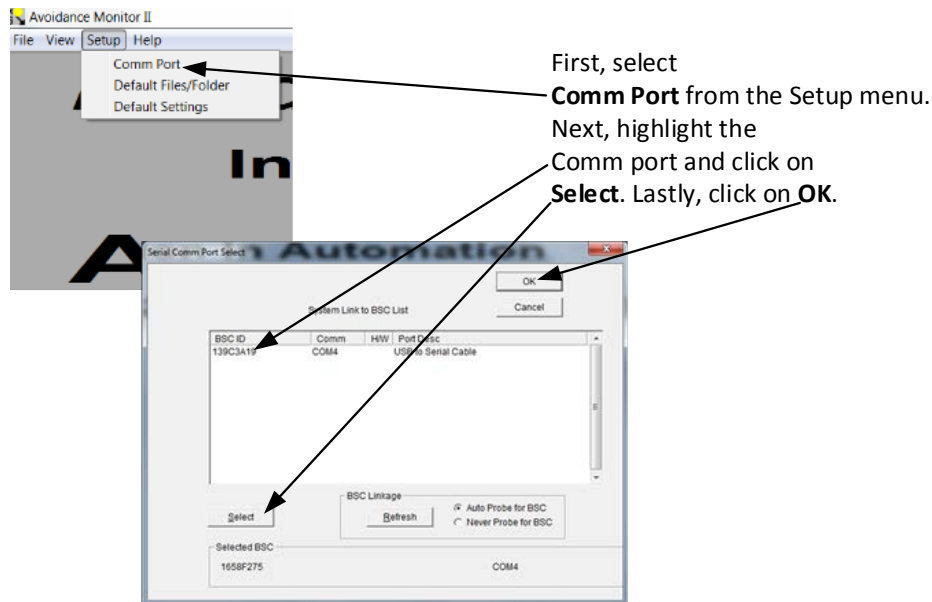

Figure 2-2. Selecting the Comm Port
2.1.1 Setting the Comm Port You must select a Comm port in order for the software to communicate with the hardware you just installed. Setting the Comm Port is accomplished using the **Setup** pull-down menu. Click on **Setup** then **Comm Port**. Select a Comm Port and Click **OK**. This is shown in Figure 2-2.
5. Make sure a Comm Port is selected (Figure 2-2).